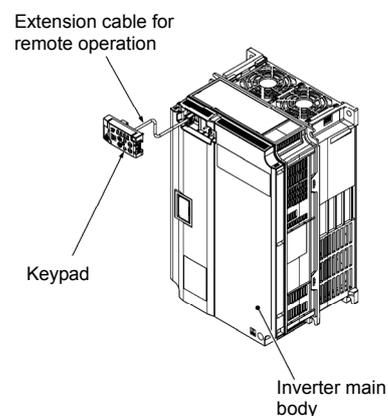

Figure 2.3-3 Operating the Keypad Remotely, Close at Hand
- Operate the panel remotely, close at hand (refer to Figure 2.3-3)